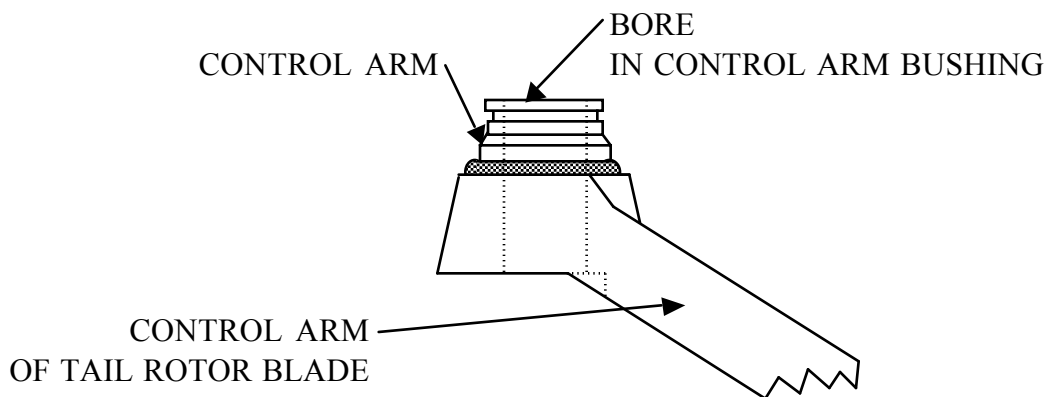

Figure 1 – Control Arm Area of Tail Rotor Blade Root Fitting
- 1) Upon installation of a Tail Rotor Blade: Using only light finger pressure, attempt to insert Pitch Link Stud (Pitch Change Bolt) into Bore in Control Arm Bushing (see Figure 1 below) of each Tail Rotor Blade.
For a fielded Tail Rotor Blade: With Retention Nut un-torqued and using only light finger pressure, attempt to rotate Pitch Link Stud (Pitch Change Bolt) in Bore in Control Arm Bushing (see Figure 1 below) of each Tail Rotor Blade.